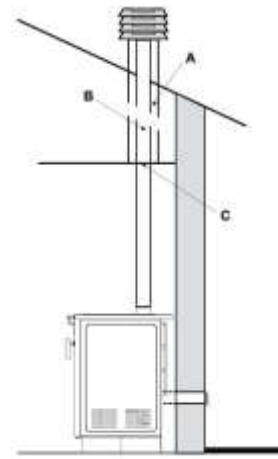

Figure 8
- In the case of a larger diameter chimney, it is necessary to insert a properly insulated steel tube (with a diameter corresponding to the chimney (Figure 8).